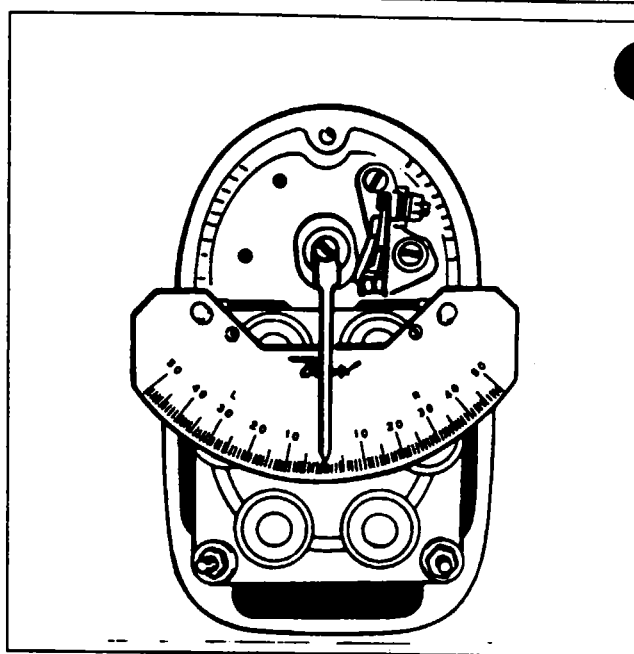

Figure 8-15. Timing Kit Installed
4. Install the 11-8693 Timing Plate Assembly and the 11-8149 Pointer Assembly of the 11-8150 Scintilla Timing Kit to breaker compartment of magneto. (Refer to Figure 8-15.) Align pointer assembly with the 0° mark on timing plate. Loosen adjusting knob of 11-8465 Rotor Holding Tool and turn rotating magnet in normal direction of rotation until pointer indexes with the respective E gap mark ($15^\circ \pm 2^\circ$). Tighten adjusting knob of 11-8465 Tool and remove the 11-8149 Pointer Assembly from magneto. Using a timing light, adjust main contact points to just open. This adjustment shall be made by rotating cam, in opposite direction of rotation, a few degrees beyond point where contacts close. Then rotate cam in normal direction of rotation until contacts just open. While holding cam in this exact position, push cam on magnet shaft as far as possible with the fingers. Extreme care must be exercised in this operation. If cam adjustment is changed in the slightest degree, the timing of the magneto will be thrown off. Do not drive cam on shaft with a mallet or other instrument. Tighten the securing screw thereby drawing the cam down, evenly and tightly. Torque non-self locking screw from 16-20 inch pounds. Refer to the latest revision of Lycoming Service Instruction No. 1400 for information regarding replacement of cam retaining screw.